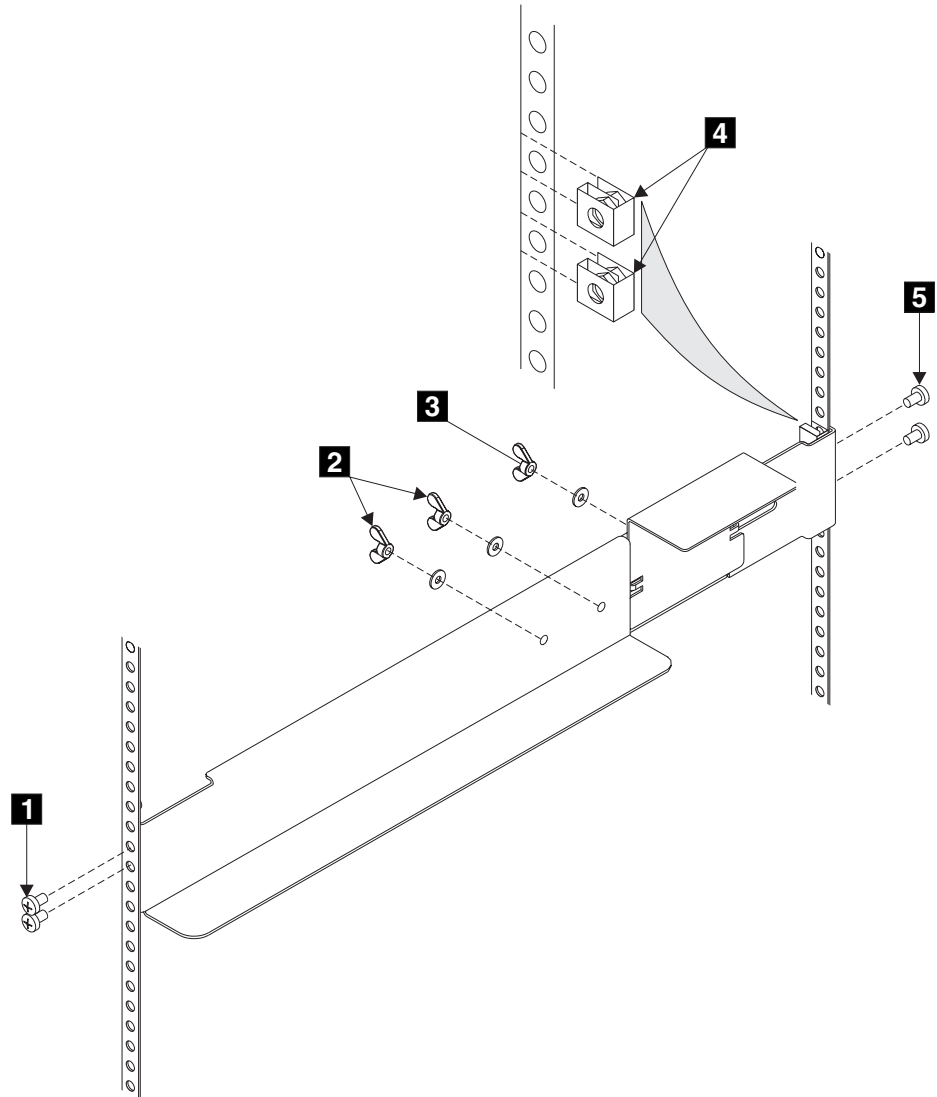

Figure 280. Support rail components for placing the 2145 UPS in the rack
2. Loosen the two adjustment wing nuts **2** (Figure 280).